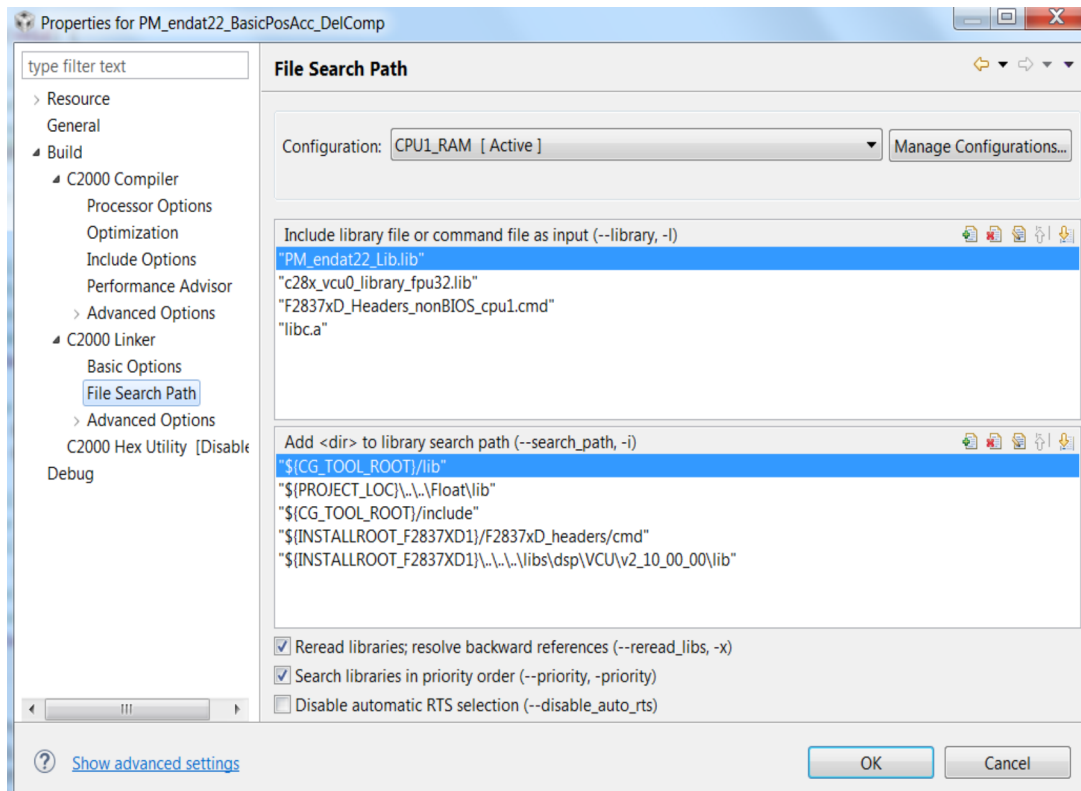

Figure 4. Adding PM EnDat22 Library to the Linker Options in CCS Project
- Figure 4 shows the changes to the linker options that are required to include the EnDat22 library.